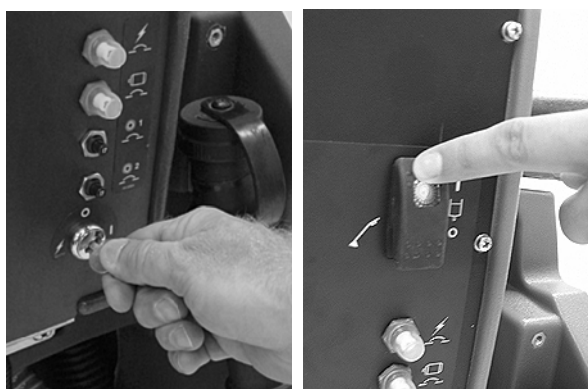

FIG. 7
2. Turn the key and the solution switch to the on (I) position (Figure 7).